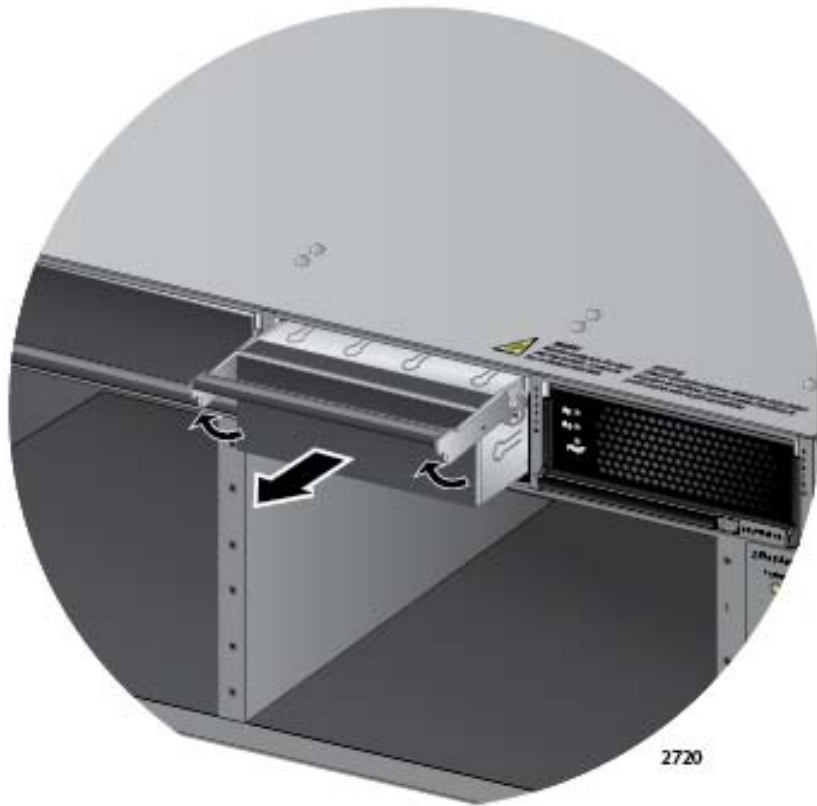

Figure 51. Removing the Blank Slot Cover from Power Supply Slot C
2. If the chassis already has a power supply in slot D, remove the blank power supply panel from slot C by lifting the blank panel handle and sliding it out of the slot, as shown in Figure 51 on page 108.